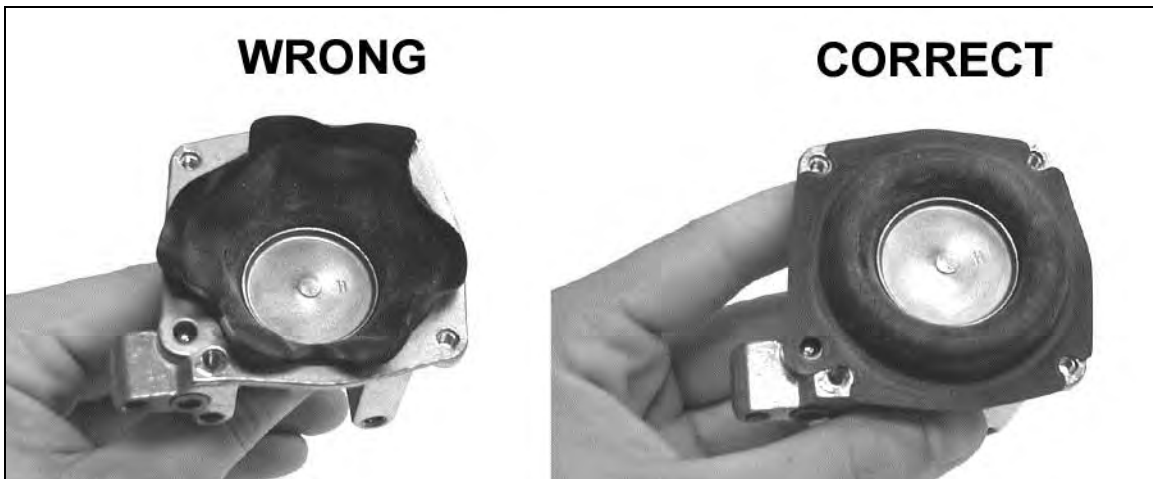

Figure 18
**TIP:** To make reassembling the diaphragm easier, extend the diaphragm into the housing and form the diaphragm into a “mushroom” shape (Figure 18). Then position the diaphragm over the bolt holes and vacuum port. Hold the diaphragm in that position with your fingers while inserting the spring, cover, and bolts to avoid disturbing the position of the diaphragm.